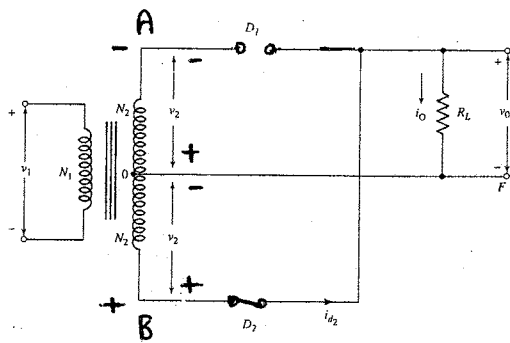

Fig 3.
- ❖ During -ve half cycle of the ac input voltage, end A becomes -ve with respect to end B, the diode ' D_2 ' is forward biased and conducts while the diode D_1 is reverse biased and acts as open circuit and will not conduct as shown in fig 3.